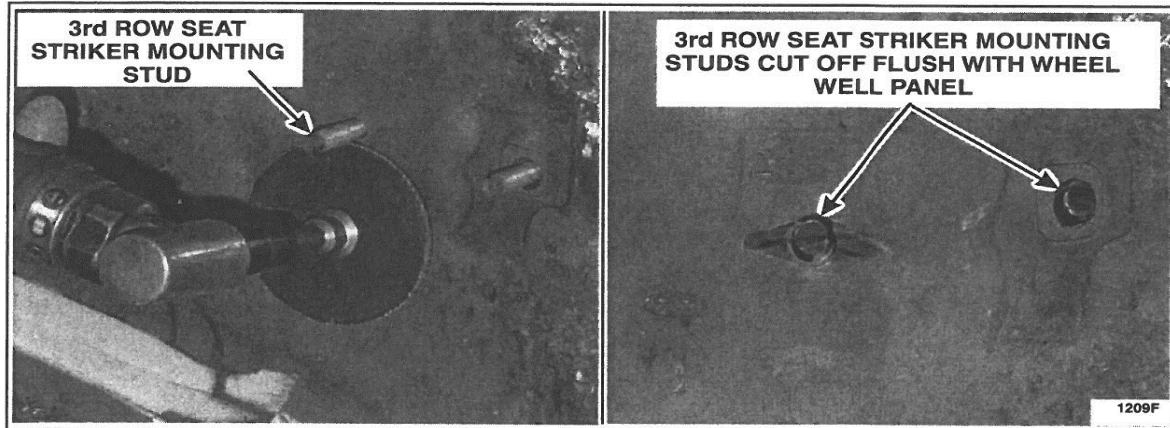

FIGURE 6
14. Using a suitable angle grinder, cut off the RH and LH 3rd row seat striker mounting studs (four total, 2 each side), flush with the wheel well panel. See Figure 6.